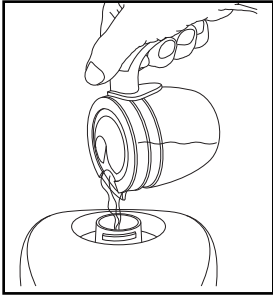

Fig. 4
6. Unscrew the boiler cap (see chapter 5). Using the glass carafe, fill the boiler with water (fig. 4) and close the boiler cap securely (see chapter 5).